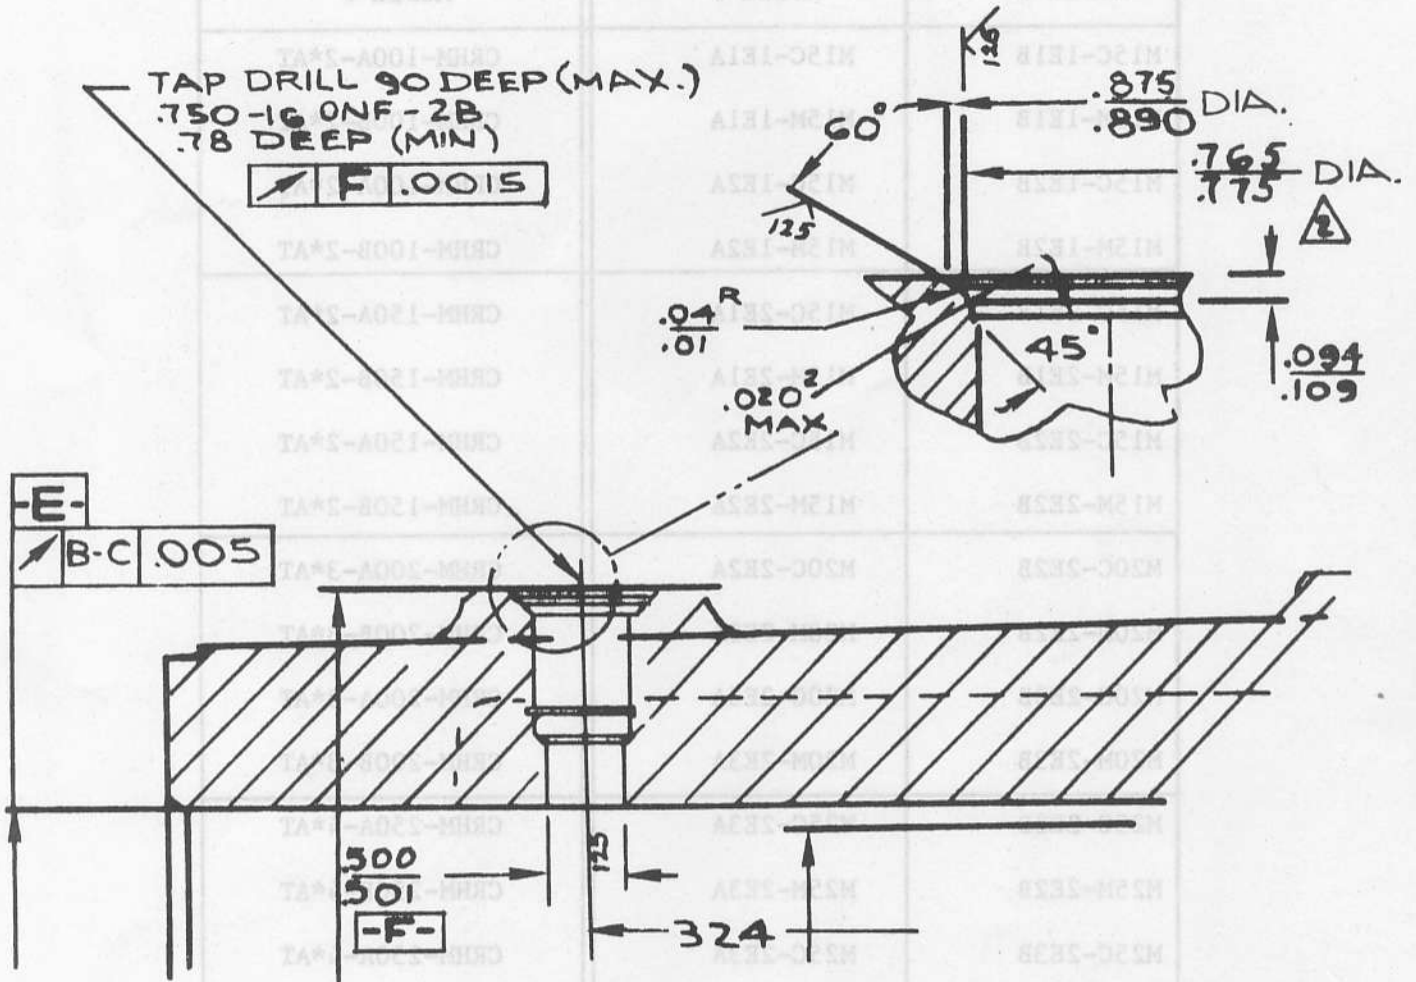

FIGURE 4
1. Drill and tap the motor housing to accomodate SCR-557. See Figure 4, "Stator Pin Dimensions For "M" Compressors."